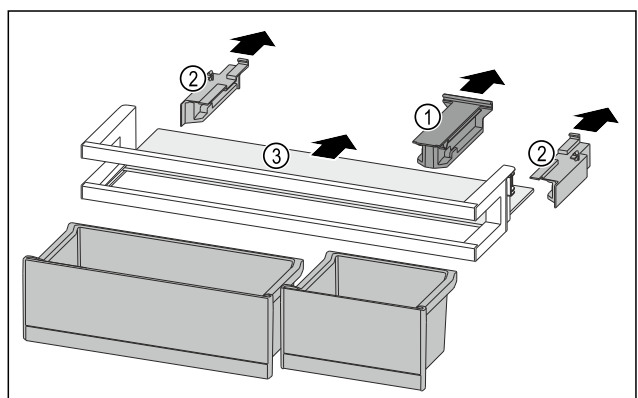

Fig. 180
- ▶ Pull off the holding part Fig. 180 (1).
- ▶ Pull off the side parts Fig. 180 (2).
- ▶ Remove the shelf Fig. 180 (3).